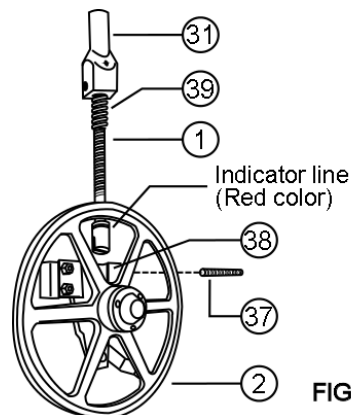

FIG. 6
- 4.-The upper wheel (2) is assembled to the tension gauge assy. (**Fig.6**). Disassemble the tension gauge assy by removing the tension gauge pin (37) with your hands. This will let you to take out the tension gauge housing (31), tension gauge spring (39), the rod and indicator ( 1 ), and the upper wheel hanger ( 38 ). Clean these parts using a soft brush and a mild detergent, rinse with water.